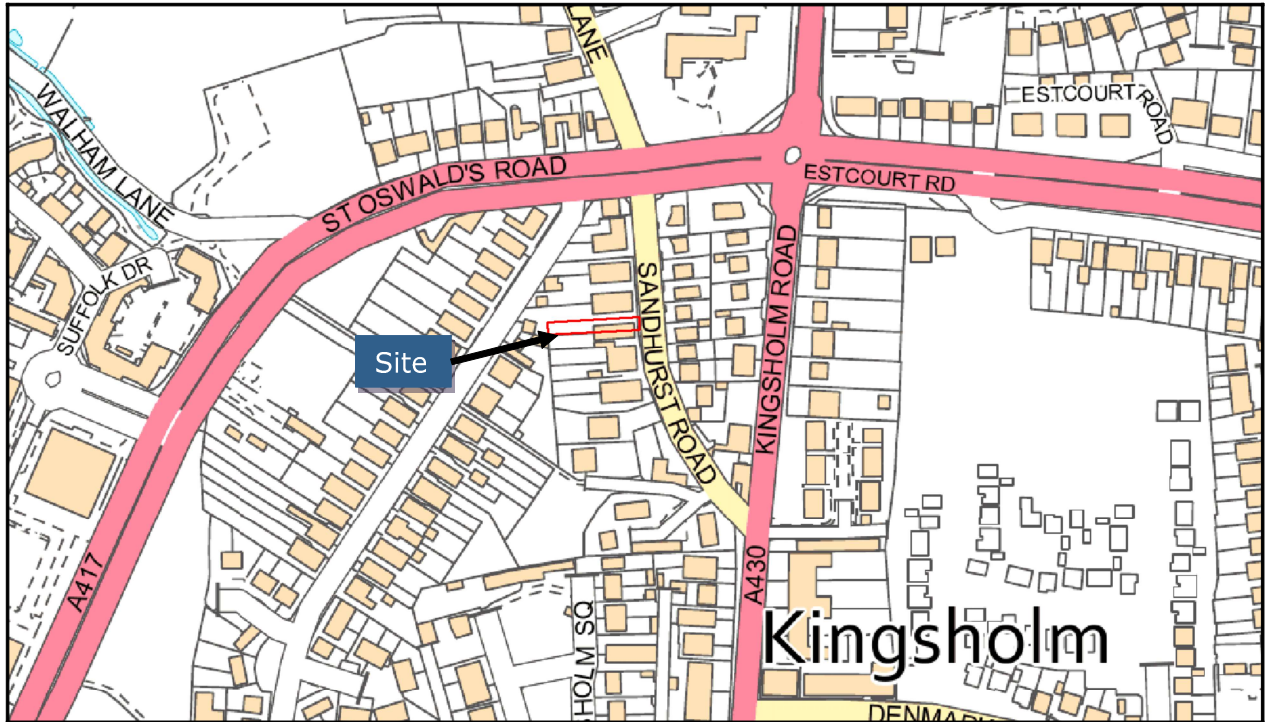

Figure 1: Site location plan (Source: Ordnance Survey)
3.1.1 The site is located at 15 Sandhurst Road, Gloucester. The approximate Ordnance Survey (OS) grid reference for the site is 383428 219650 and the location of the site is shown on Figure 1.